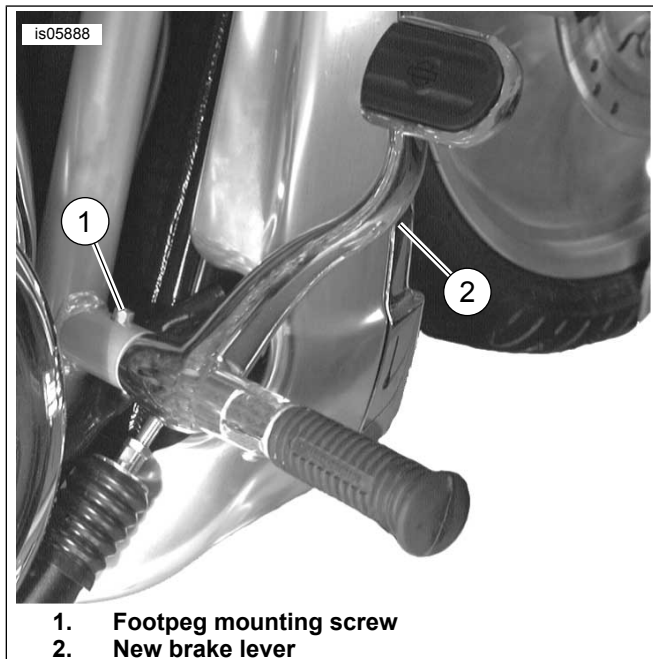

Figure 3. Install New Brake Lever
7. See Figure 3. Slide footpeg through the opening in brake lever and frame. Make sure footpeg is oriented so it will fold upward and rearward.